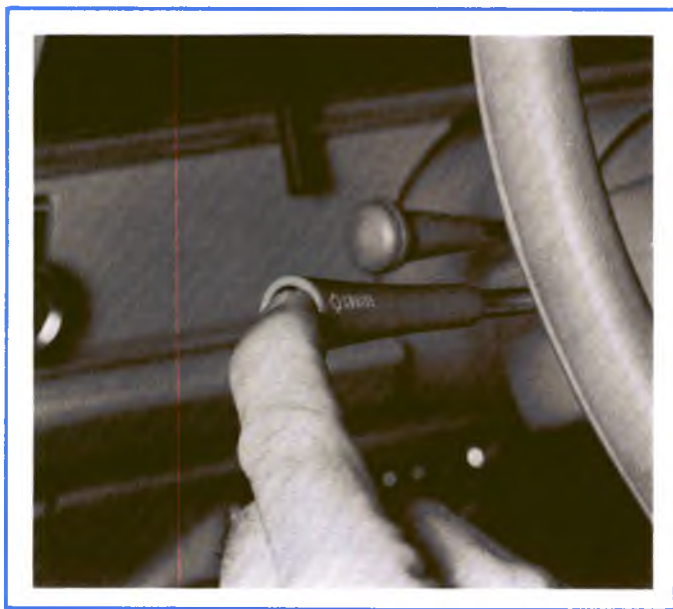

Figure 1-20, Pressing the Cruise Control Switch Button should Engage the Solenoid.
Step 5 Turn ignition switch "ON". *Do not start the engine.* Slowly depress and slowly release the cruise control switch. Listen for a solenoid engagement "thunk" "thunk" sound (figure 1-20). If the "thunk" is heard on engagement and release, the solenoid coil and related circuits are electrically good. If the "thunk" is erratic or not heard, go to Step 6.